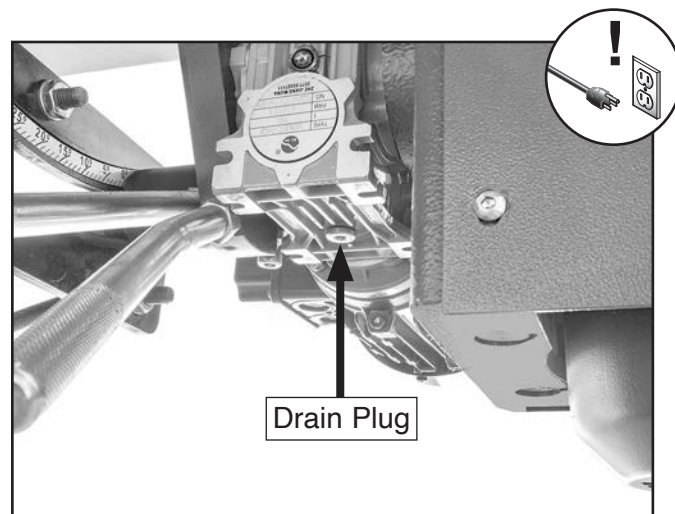

Figure 63. Location of gearbox drain plug.
5. Place drain pan under drain plug (see **Figure 63**), then remove drain plug to drain oil.